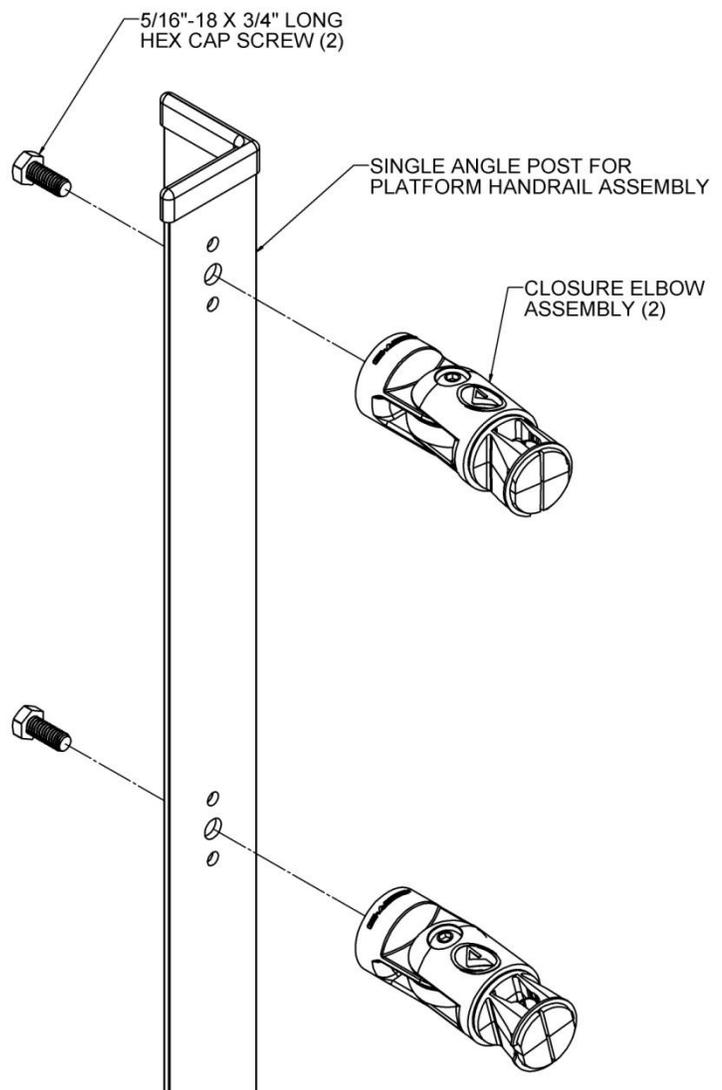

**FIG. 6.6**
- 6.1.11. Handrails for the inside of turn back platforms (two platforms connected) are connected using the MHRRC (CONNECTOR – RAMP HR TO RAMP HR) (FIG. 6.6). A minimum of distance of 8" is required between the ramp side rails in order to install the connectors.